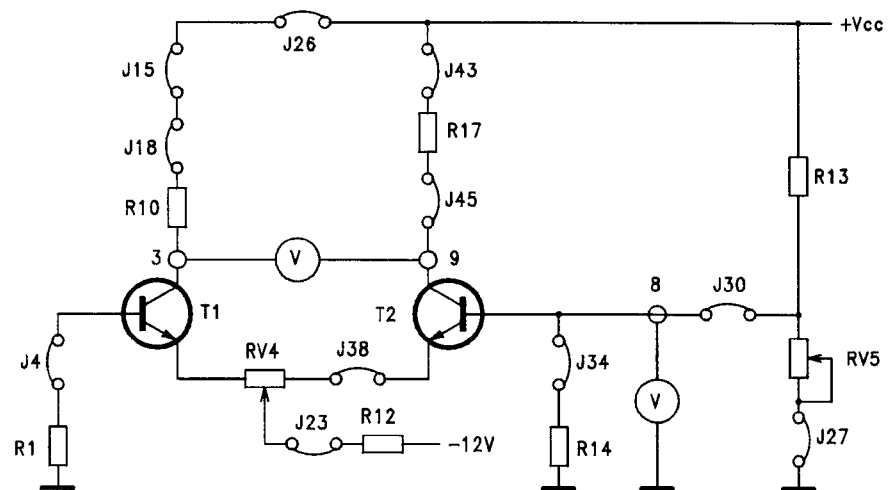

fig. B28.3
- Insert also jumpers J27 and J30, to produce the circuit of figure B28.3.